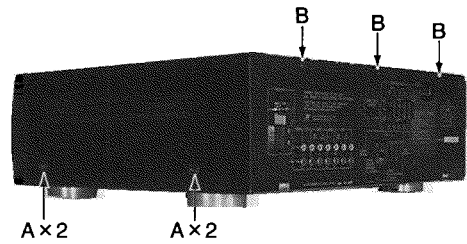

Fig.1
(1) Top cover removal (See Fig.1)